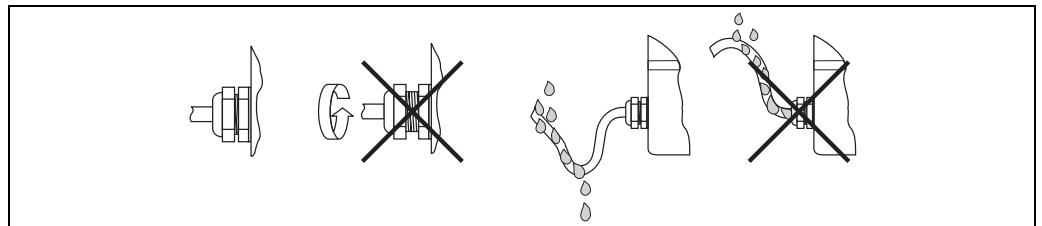

Fig. 8: Connection hints to retain IP 67 protection
- Tighten cable gland (→ Fig. 8).
- Loop the cable before placing into the cable entry ("Water sack", → Fig. 8). This means that any moisture that may form cannot enter the gland. Install the device so that the cable entries are not facing upwards.